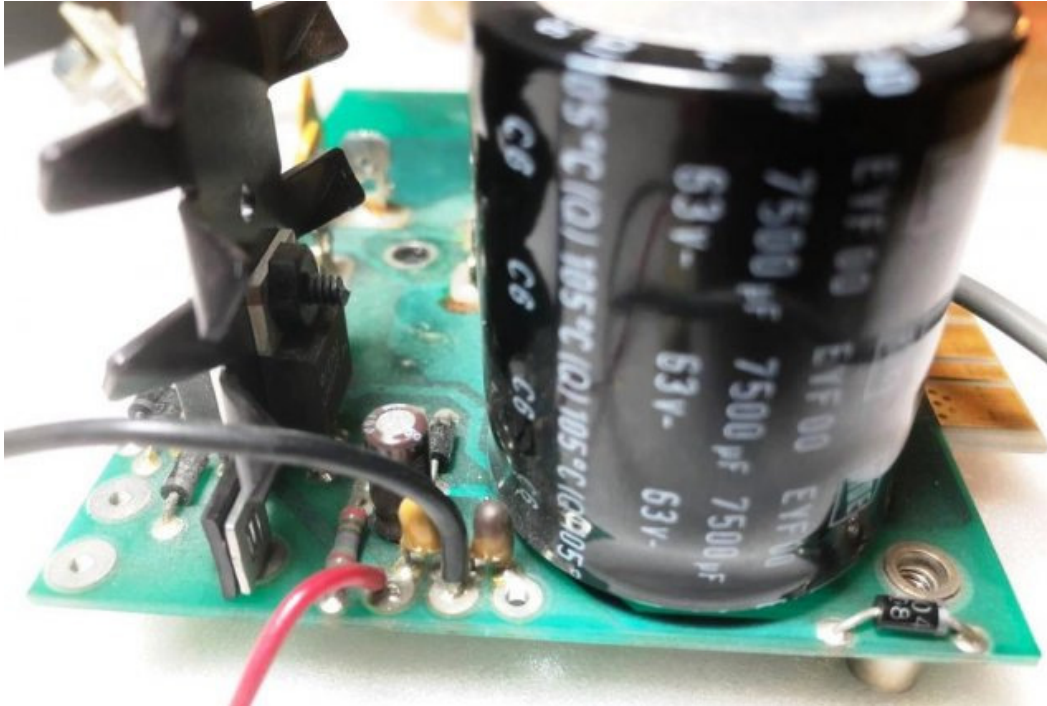

Figure 2: Tantalum capacitors (Left capacitor normal color, Right capacitor discolored/burnt).
- * Observed the 1.5uF tantalum capacitor on negative voltage side was burned (Fig. 2).